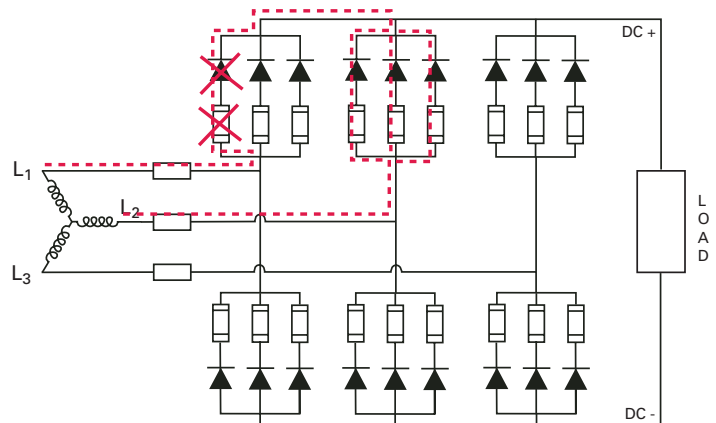

Figure G2. Internal fault, fewer parallel paths.
Experience has shown that where "n" is less than four (4) (see Figure G2), protection of the above nature is often difficult to achieve. In applications utilizing both line and individual device fuses, a check must be made to ensure that when an internal fault occurs, the device fuse selectively coordinates with the line fuse (i.e., the total clearing  $I^2t$  of the cell fuse must be less than the pre-arcing  $I^2t$  of the line fuse):